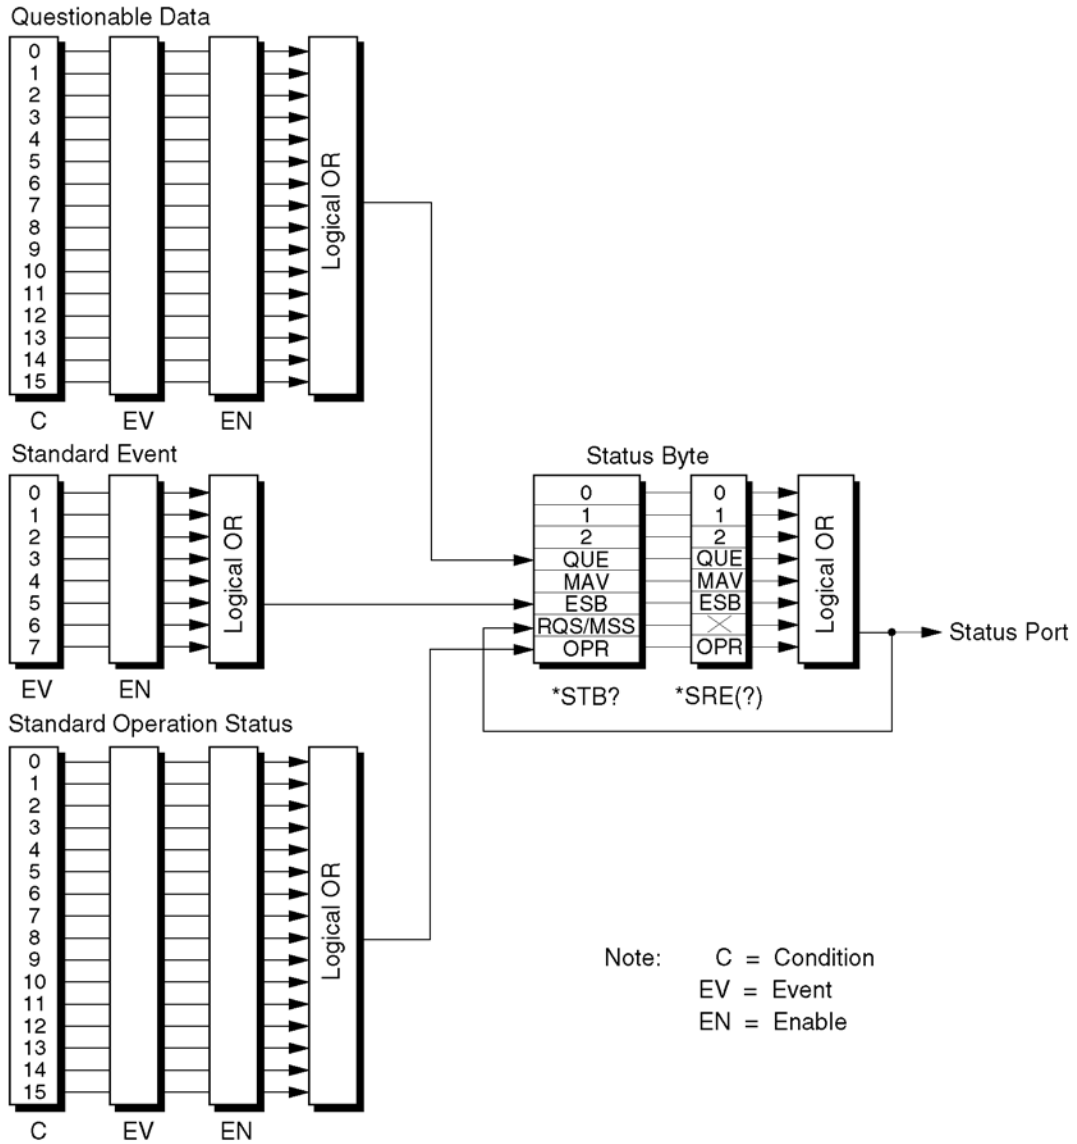

Figure 5-1. Status System Registers
The STATus commands allow you to examine the status of the instrument by monitoring the Operation Status register and the Questionable Data register. Figure 5-1 shows all of the instrument's status registers.
The Operation Status register group consists of a condition (C) register, an event (EV) register, and an enable (EN) register as shown in Figure 5-1. The commands in the STATus:OPERation subsystem control and monitor these registers.
The Questionable Data Register group consists of a condition register, an event register, and an enable register as shown in Figure 5-1. The commands in the STATus:QUESTionable subsystem control and monitor these registers.